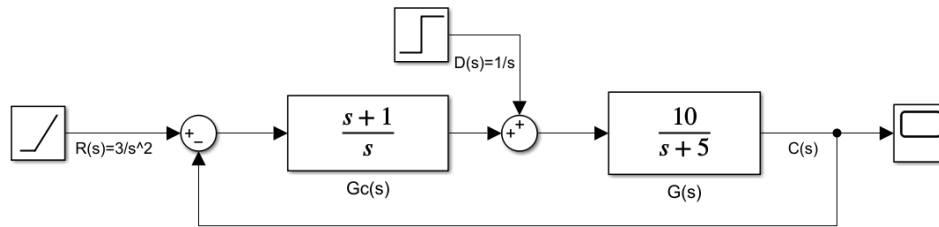

Figure 1: Reference tracking with disturbance rejection control system
1. Consider the control system that is shown in Figure 1.